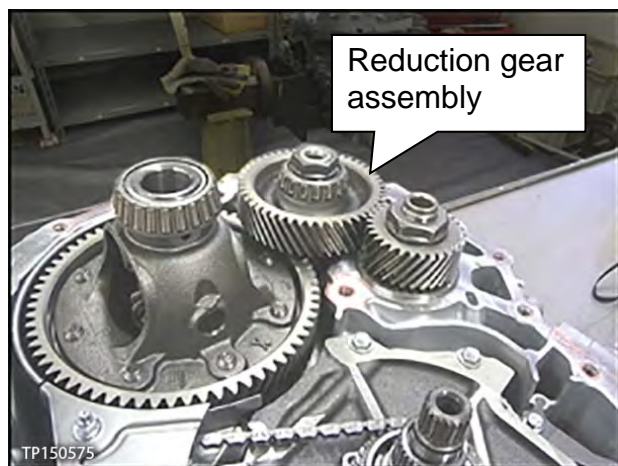

Figure 37
20. Carefully remove the reduction gear assembly (Figure 37).